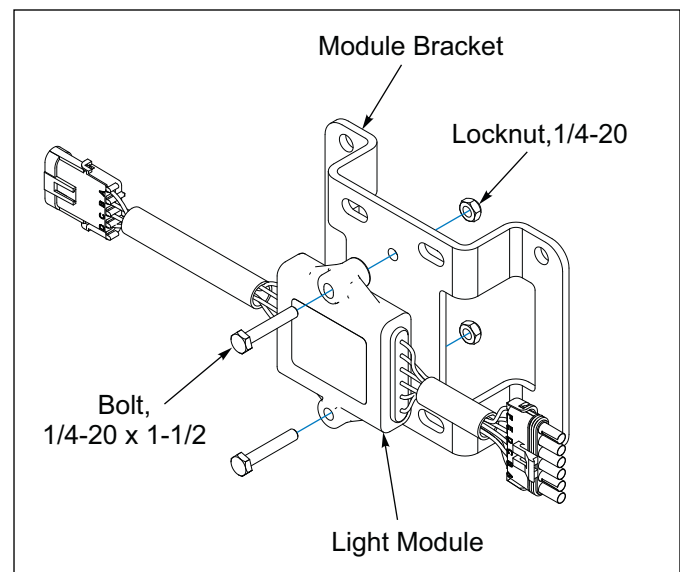

Figure 2-14: Light Module and Bracket
7. Attach the Light Module to the Module Bracket with 1/4-20 x 1-1/2 Bolts and Locknuts. See Figure 2-14.